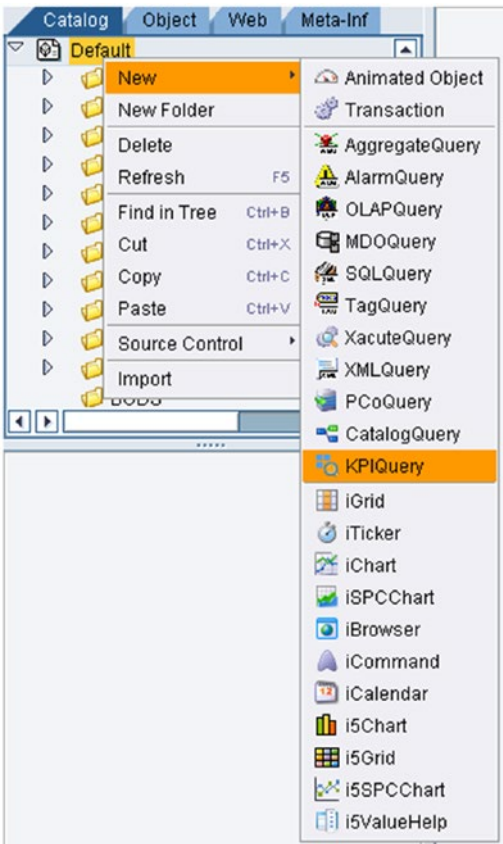

Figure 7-96. Selecting KPI query
3. Right-click on any project and select New ► KPI Query. See Figure 7-96.